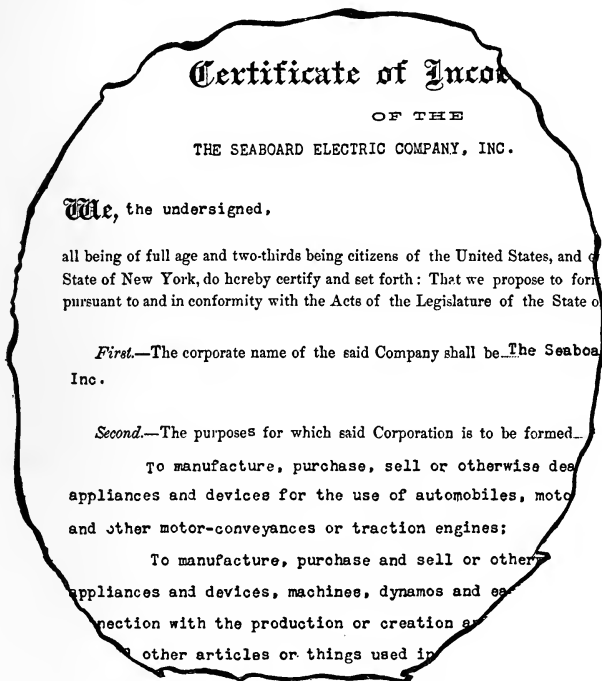

FIG. 83. CERTIFICATE OF INCORPORATION
Then you and the others make, sign, acknowledge and file a *certificate of incorporation*, a reproduction of which is shown in Fig. 83 (see outfit necessary for a Corporation), and this must contain: (1) the name of the proposed company; (2) the purpose for which it is formed; (3) the amount of the *Capital stock* (which means the entire amount of the stock, for which the company is capitalized and which, let's say, is \$10,000); (4) the number of *shares* of which the capital stock is to consist (each share of which must not be less than \$5 nor more than \$100 and the amount of actual capital must not be less than \$500 in cash with which the company is to begin business) and the amount of cash must be stated. (5) The certificate must also contain the name of the city, village, or town, in which its principal business office is to be located; (6) its duration, which you can put at 50 years; (7) the number of its directors which must be not less than three; (8) the names and post-office addresses of the directors for the first year, and (9) the names and post-office addresses of the subscribers to the certificate of incorporation and a statement of the number of shares of stock which each agrees to take in the company. A *certificate of incorporation blank* ready to fill in can be bought for 10 cents of stationers who deal in law books and forms.